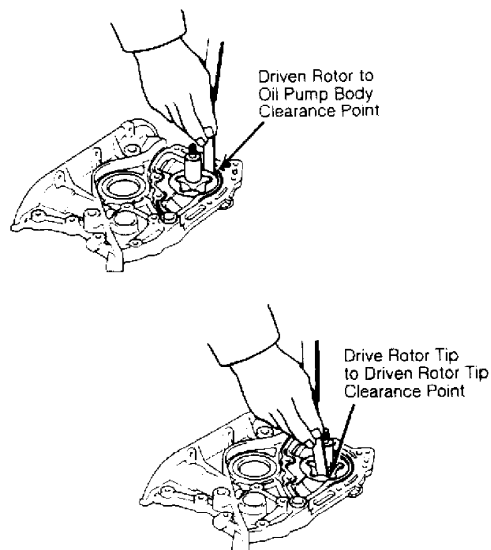

Fig. 25: Checking Oil Pump Clearance
4) Install rear oil seal retainer. Install flywheel or drive plate tightening retaining bolts in proper sequence. See Fig. 25. Install piston and rod assemblies. To install remaining components, reverse removal procedure.
1) Measure clearance between driven rotor and pump body. Standard clearance is .004-.007" (.10-.17 mm). Maximum clearance is .008" (.20 mm). See Fig. 25
2) Measure clearance between both rotor tips. Standard clearance is .0016-.0063" (.040-.160 mm). Maximum clearance is .008" (.20 mm). See Fig. 25.